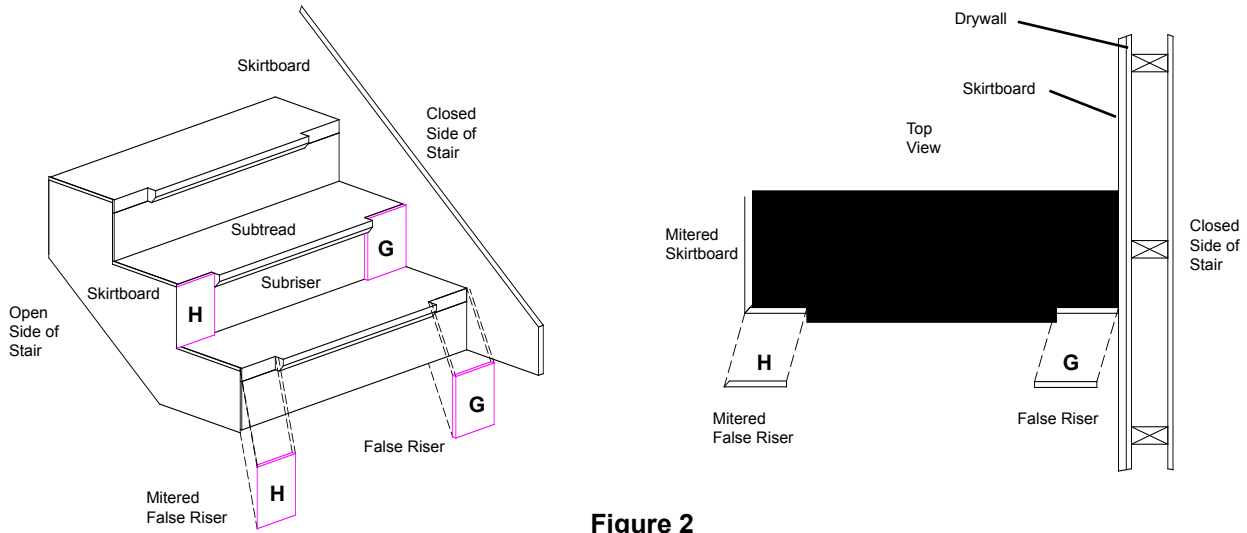
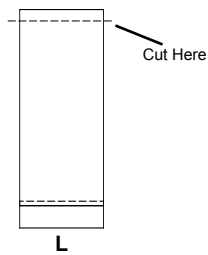

**Figure 1**
**Figure 2**
1. Lay out the three rough horses to the required rise and run (C and B respectively). Accuracy is important for ease of fitting the false treads and risers later. (See Figure 1.)
2. Allowing space against the stud wall for drywall and a finished skirtboard, space the rough horses equally and secure the top and bottom into place. (See Figure 1 and Figure 2 page 2.)
3. Cut the subriser to the overall width of the rough stairs and install. (See Figure 1.)
4. Using Figure 1 and the steps below, prepare the subtreads.
If using 2x12's for the subtreads, chamfer the bottom edge of **D** in Figure 1.
5. Install the finished skirtboard on the closed side of the stair. (See Figure 2 page 2, if applicable.)
6. When cutting out the open side finished skirtboard, miter cut each rise at 45° (See Figure 2 page 2.) to avoid exposing end grain on the false riser. Install the finished skirtboard. (See Figure 2 page 2, if applicable.)
1. Fit and install the false risers on the closed side of the stair **G** using glue and finish nails. **(See Figure 2.)**
2. Cut a 45° miter on all false risers for the open side of the stair **H**. Fit and install the risers on the open side of the stair **H** using glue and finish nails. **(See Figure 2.)**
4. Install the risers and treads opposite the false starting step. (See Figure 2, 3, and 5c.)